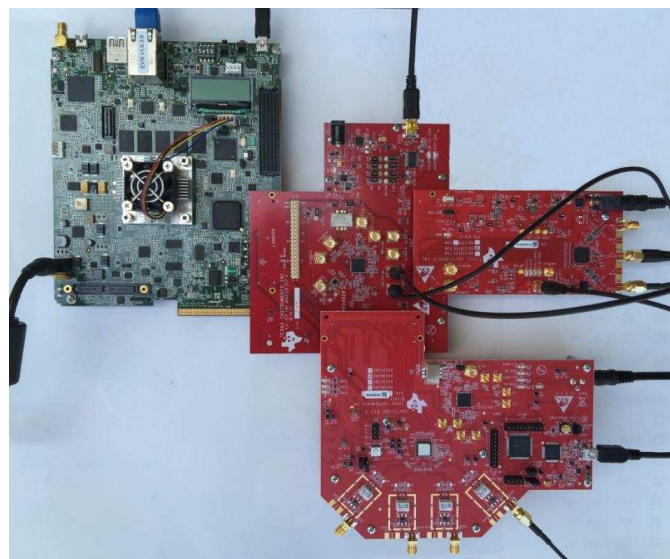

Figure 4. Complete Setup With Cables/Power Supplies Connected
- (c) Figure 4 shows the setup with all of the clock and loopback connections made previously.